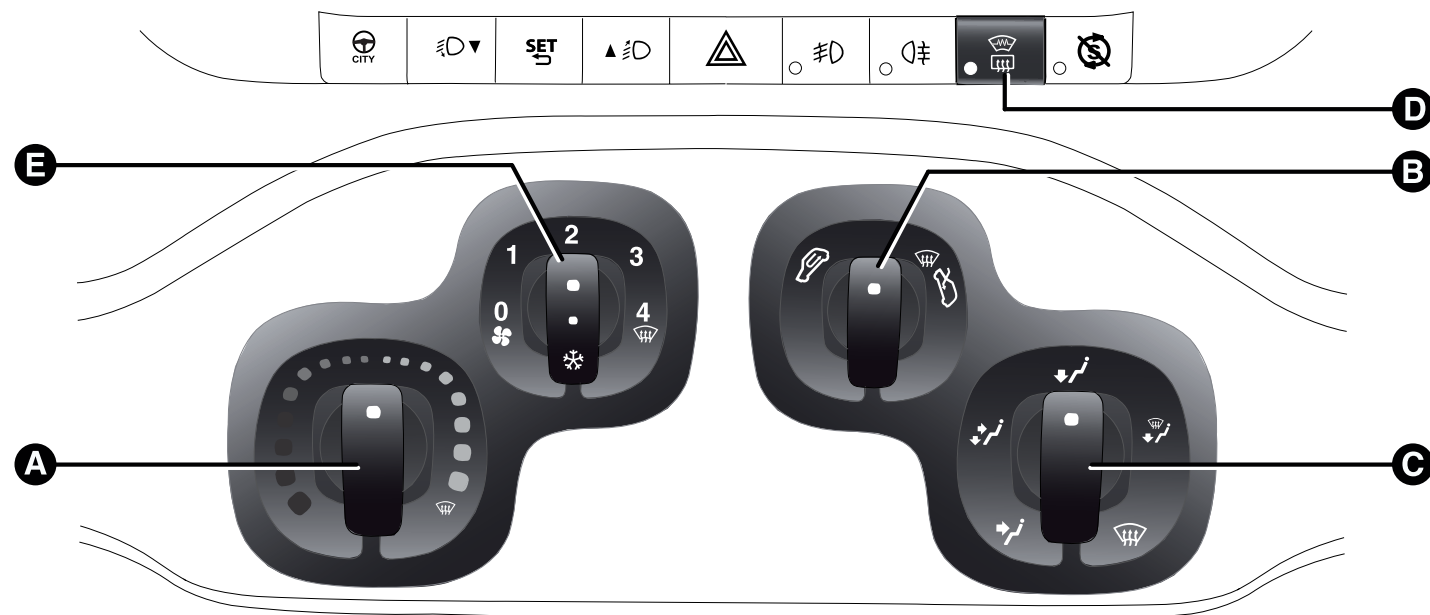

fig. 29
A Air temperature knob (red=hot/blue=cold)fig. 29
B Air recirculation knob fig. 29
C Air distribution knob fig. 29
D Heated rear window, folding mirror/heated windscreen (for versions/markets, where available) activation/deactivation button fig. 29.
E Fan speed and climate control system activation/deactivation knob fig. 29 (for versions/markets, where provided). Press the knob to activate the climate control system; the LED on the knob switches on. This enables rapid cooling of the passenger compartment. .
☐ turn knob A fig. 29 to the blue section;
- ☐ turn knob A fig. 29 to the right to increase the temperature;
- ☐ turn knob A fig. 29 to the red section;